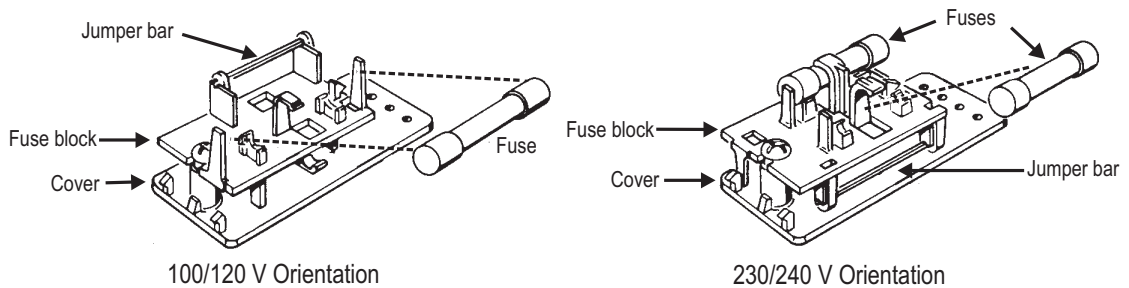

Figure A-5. Fuse Block Orientations
You can tell which arrangement is selected by looking at the back of the Cover. If you see two fuses, the fuse block is in the 230/240 V orientation. If you see only one fuse, and a metal jumper bar, the fuse block is in the 100/120 V orientation. These orientations are shown on Figure A-5 (page A-5).
3. Invert the Fuse Block and reassemble it. Make sure the the Fuse Block fits into the notch on the Support Pedestal. Also be sure that the cutaway on the Fuse Block fits around the top section of the Screw Pedestal. The Fuse Block should sit flat, parallel to the Cover. Tighten the screw. Figure A-5 shows the two fuse block orientations.